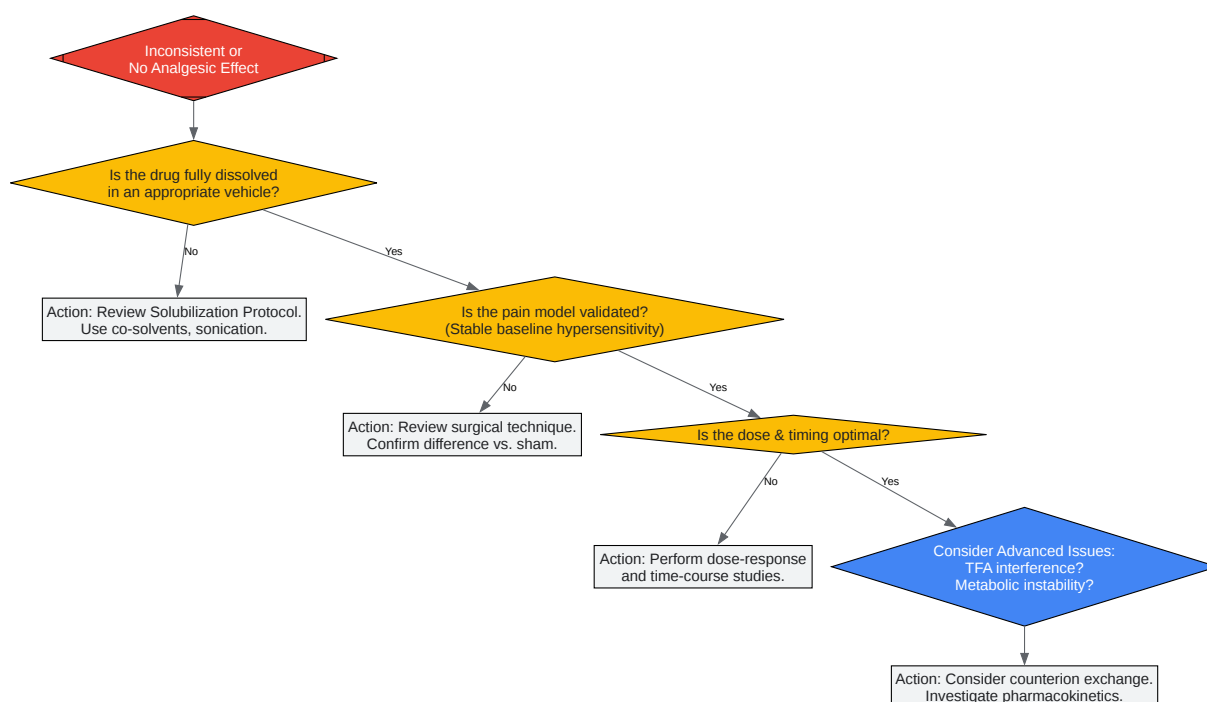

Figure 3. Troubleshooting Inconsistent Results
- Solution: Follow a systematic check as outlined in the diagram below (Figure 3).